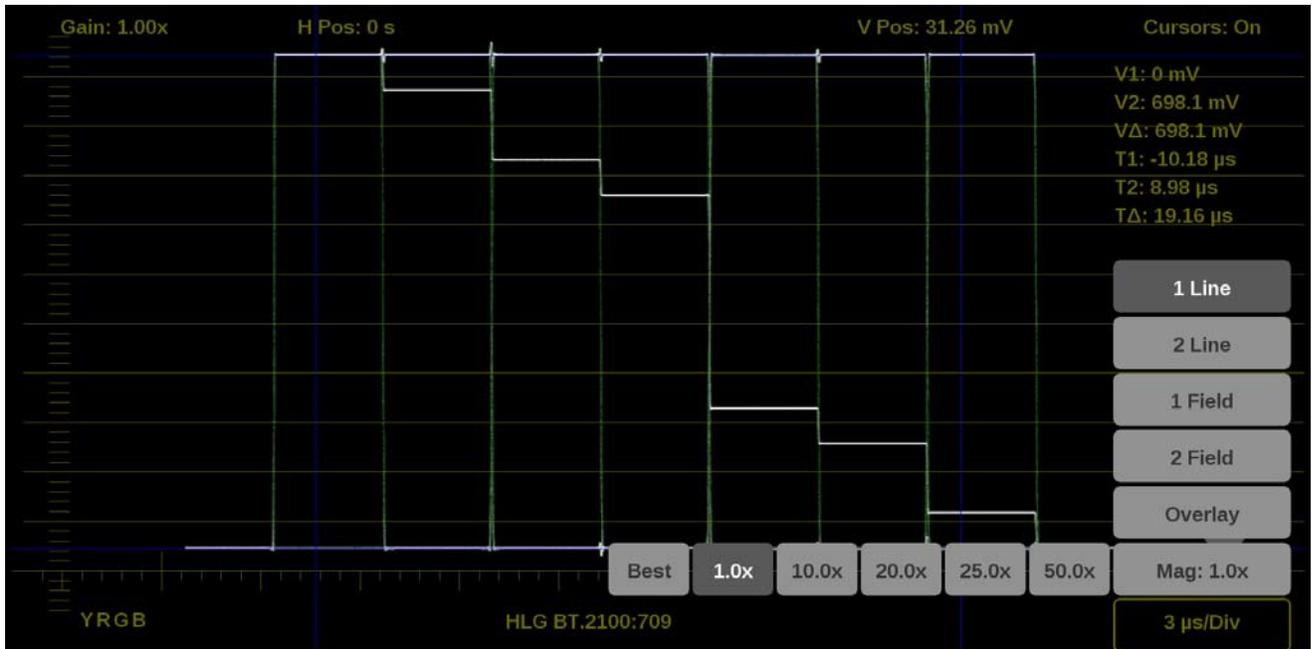

Figure 90: Waveform on-screen tools – display format
1. Select the button in the bottom right corner of the application to expand the available display format options. (See Figure 90.)